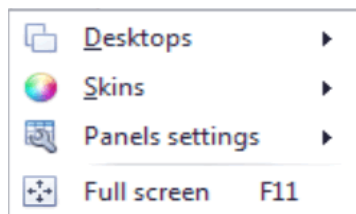

Fig. 10. The “View” menu.
**Full screen (Fig. 10)** – allows expanding of the map over the whole screen. The map can alternatively be expanded over the whole screen by pressing the F11 key. For details about the full-screen view see the “Full-screen mode setup” section.